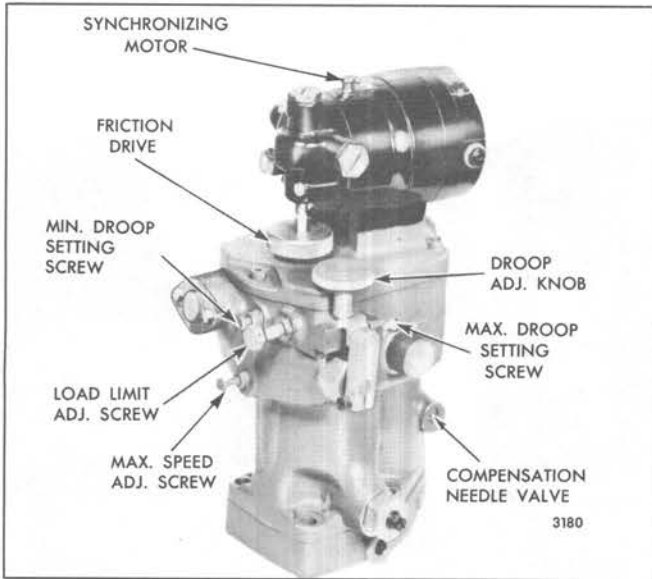

Fig. 9 – Typical Synchronizing Motor Mounting
1. Open the valve (Fig. 9) two or three turns and allow the engine to "hunt" or "surge" for about one-half minute to bleed any air which may be trapped in the governor oil passages.
Some PSG type governors are equipped with an external adjustable droop control (Fig. 9). This permits the speed droop to be adjusted without removing the governor cover. With this feature, a unit can be paralleled with another unit that is operating at constant frequency (zero droop). The incoming unit must have its droop bracket set in the *maximum* position while it is being paralleled and while operating in parallel. When it is desired to stop the unit operating at constant frequency, shift the load to the incoming unit and move the governor droop bracket to zero droop. Then adjust the outgoing unit to maximum droop, remove it from the line and stop the engine. The incoming unit will now be carrying the load and operating at constant frequency (zero droop).